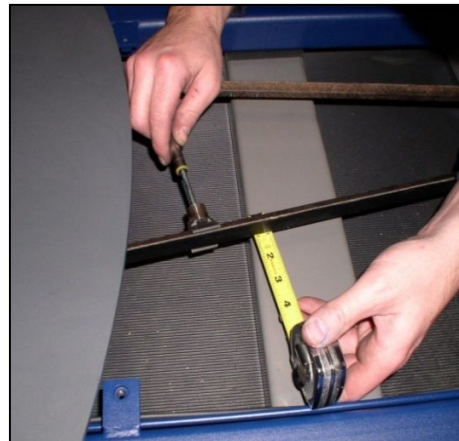

Figure 7.24
25. Use a force gauge to measure the tension of the belt. Measure at the edge of the turntable top (Figure 7.24).